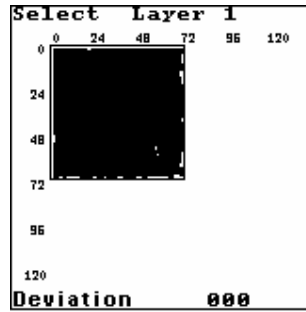

Fig. 41
6. When the whole testing area is scanned (filled in black) press the SHIFT key. DAMI-C HA01 turns into SELECT submodule (Fig. 41). To switch between the layouts use the LEFT and RIGHT keys.